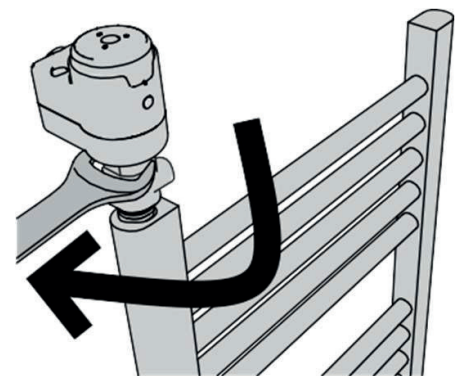

Fig. 10
- Then using a 27 mm spanner turn the T-piece with screwed ATLANTIS heating element until the last nipple thread turn and if necessary continue in order to have the regulating box facing forward (Fig. 10).